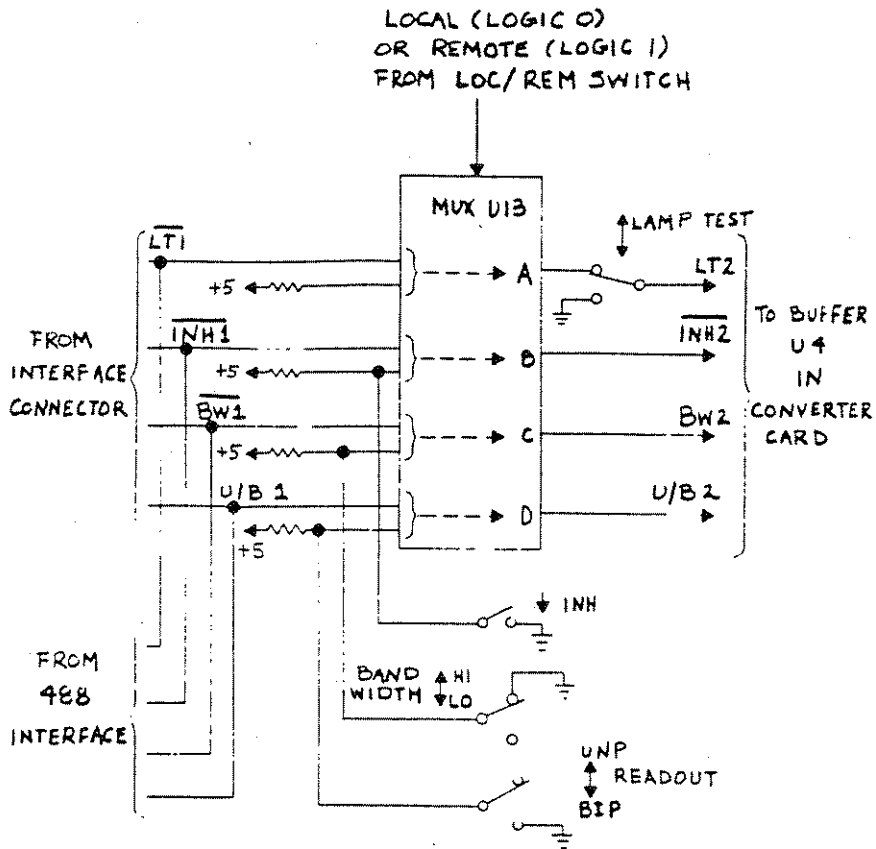

Figure 3-6. Selection of Lamp Test, Inhibit, Bandwidth and Unipolar Control Lines
3.7.3 Local/Remote Selection of $\overline{\text{LT}}$, $\overline{\text{INH}}$, BW, and UB (See Figure 3-6.)